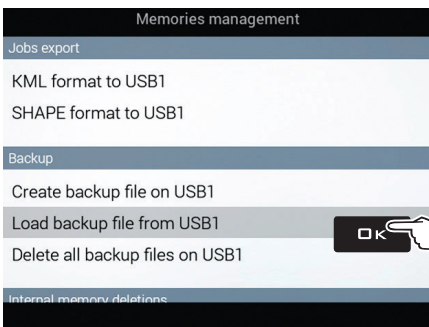

Fig. 285
- Select **Load backup file from USB1** (Fig. 285) and press **OK**.